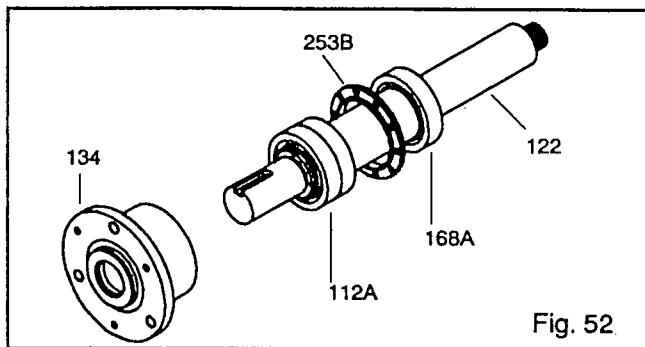

Fig. 52
6. Remove bearing housing (134) from shaft (122) with bearings (112A, 168A) (Fig. 52).